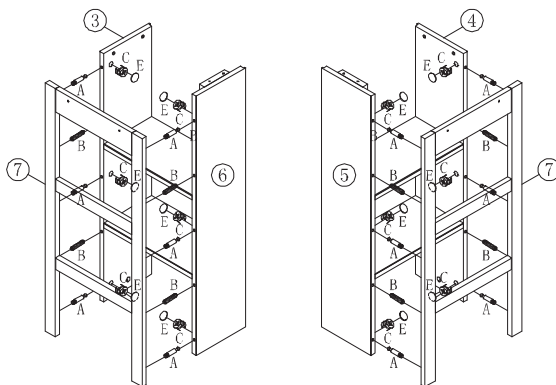

Figure 2
INSERT 12PCS CAM-BOLTS (A), 8PCS WOOD DOWELS (B) INTO PREDRILLED HOLES ON BACK OF FRONT FRAMES (7) AND FIT INTO CORRESPONDING HOLES ON FRONT EDGES OF LEFT AND RIGHT SIDES OF BOOKCASES (3.4.5.6). INSERT 12PCS CAM-LOCKS (C) INTO BIG HOLES ON INSIDES OF LEFT AND RIGHT SIDES OF BOOKCASES (3.4.5.6) WITH SLOT FOR SCREWDRIVER FACING OUTWARD. ROTATE CAM-LOCKS (C) CLOCKWISE TO SECURE CAM-BOLTS (A). PUSH COVERS (E) INTO CAM-LOCKS (C). AS FIGURE 2 SHOWN.